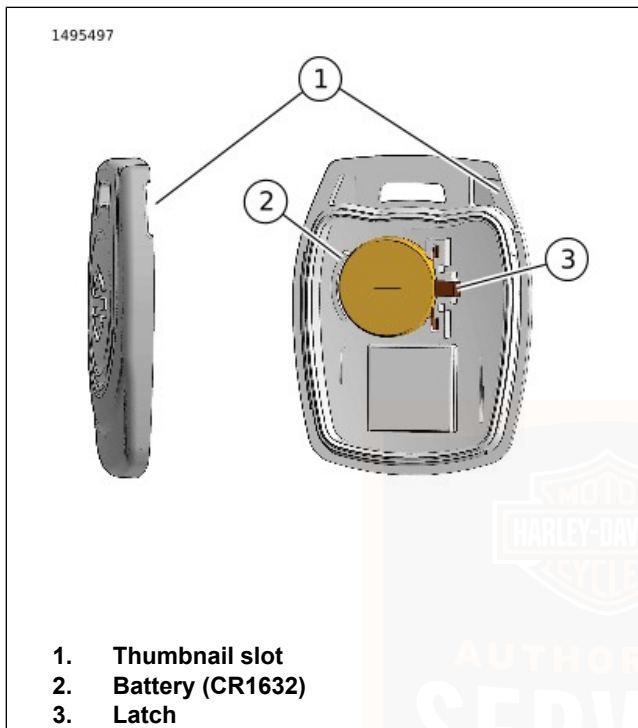

Figure 20. Replace Fob Battery
- See Figure 20. The serial number of the fob is also found on the inside of the fob.
1. See Figure 20. To open the fob, turn a thin blade in the slot (1).
2. Remove the battery (2) and discard in accordance with local regulations.